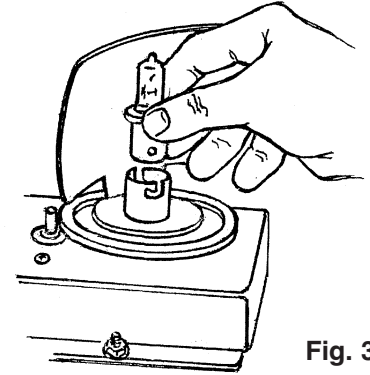

Fig. 3
11. Position the new bulb into the socket, depress the bulb and turn clockwise. **IMPORTANT:** There is a rubber gasket around the edge of the lens. Make sure the gasket is positioned properly around the lens so to prevent water and dirt from entering inside the light. Place the lens back onto the light's base and secure with the screws that were removed earlier. (See Fig. 3)